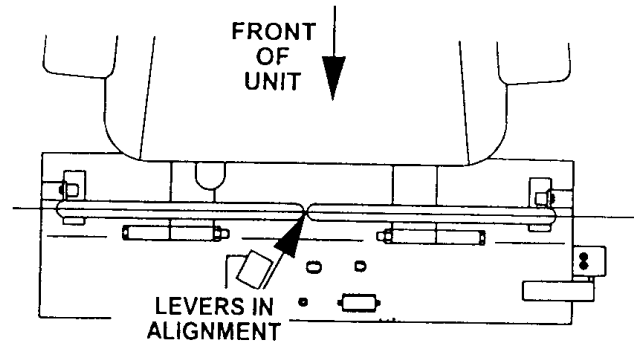

Figure 4
13. If the ends of the levers hit against each other, while in the drive position (Fig 4) (levers rotated in as far as possible).